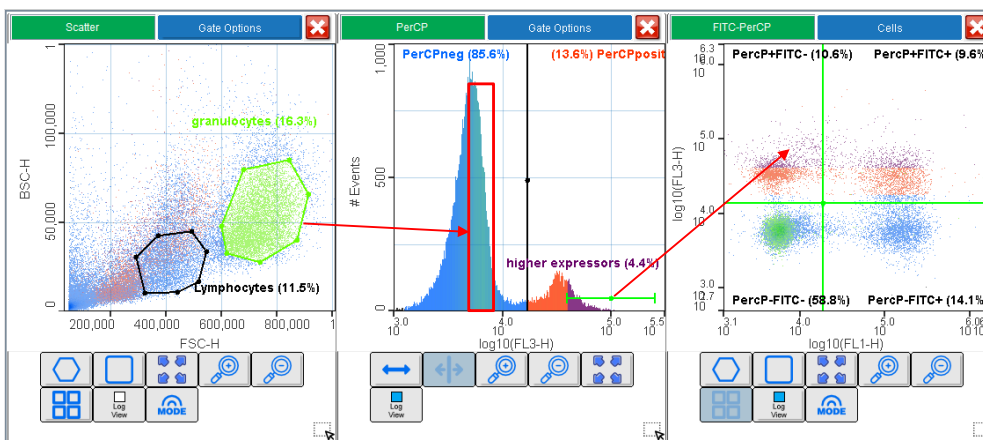

Figure 44. Applying color to gates in different plots
3. Up to 10 gates can be colored in a plot. Gates in different plots can also be colored. The color pattern will appear superposed (Fig. 44).